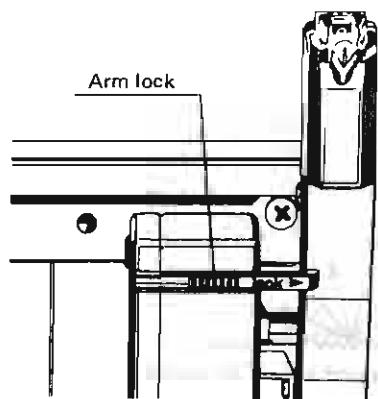

Fig. 1
2. Lock the tonearm by sliding the arm lock. (See Fig. 1)